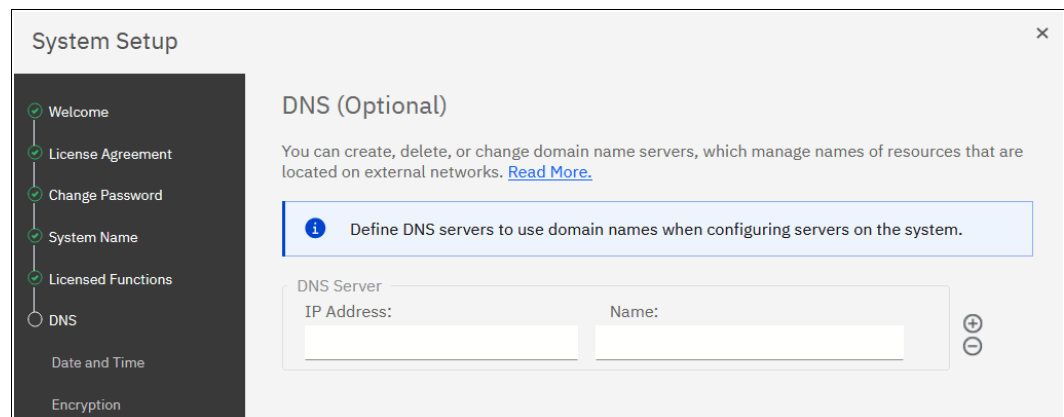

Figure 3-16 DNS server (optional)
8. DNS can be configured on the system, as shown in Figure 3-16. DNS helps the system to resolve the names of the computer resources that are in the external network if they are not indicated by an IP-address. Click **Apply and Next** when done.